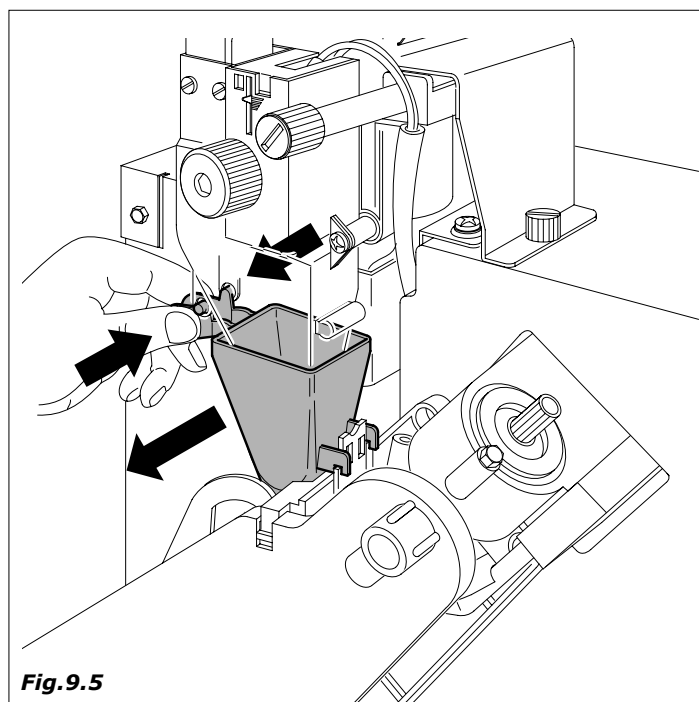

Fig. 9.5
- coffee funnel and chute (Fig. 9.5)